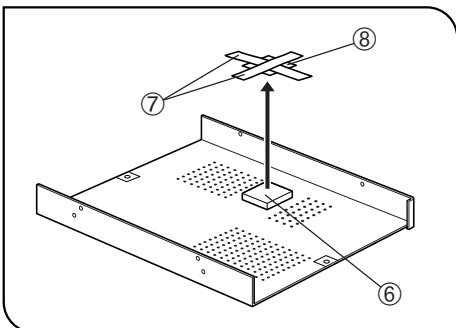

Fig. 5
1. Using a Phillips screwdriver, remove the six screws ① clamping the top cover of the extension box and then remove the cover.
2. Remove the bracket clamping screw ②.
3. Connect the PCIe interface board ③ with low-profile bracket to the connector ④.
4. Connect the connector ⑤ to the PCIe interface board.
5. Attach the clamping screw ② removed above.
6. A thermal conduction sheet ⑥ is attached on the back of the top cover. Remove the tapes ⑦ and the protective sheet ⑧ carefully so as not to displace the thermal conductive sheet (Fig. 5).
7. Place the top cover in the original position and attach the clamping screws ①.